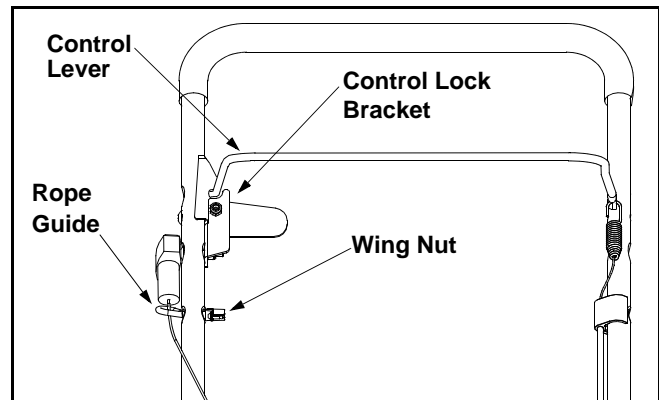

Figure 3
- Loosen the wing nut that secures rope guide to handle. With the spark plug wire disconnected and grounded, pull the starter rope out of the engine. Slip the starter rope into the rope guide and tighten the wing nut. See Figure 3.